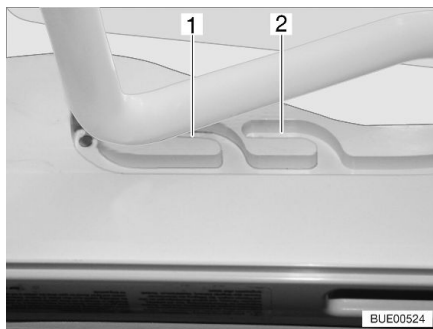
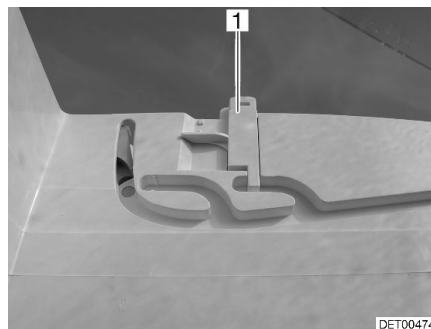

Fig. 36 Heki skylight in ventilation position
Fig. 37 Ventilation position locking mechanism
The Heki skylight can be put in two ventilation positions: Bad weather position (Fig. 36,1) and central position (Fig. 36,2). Depending on the model, the skylight can be locked in the central position with both left and right latches (Fig. 37,1) on the skylight frame.
- Push the bar slightly upwards and into the selected guide (Fig. 36,1 or 2) and lock if necessary.